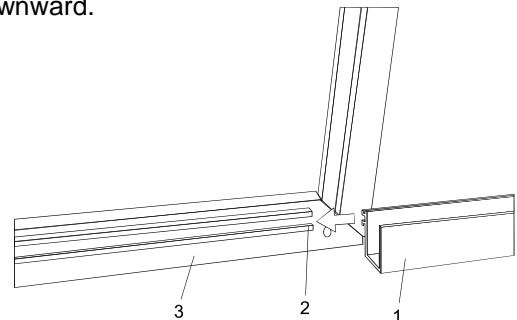

Fig. 4
- Slide the lower plastic door track (1) into slot (2) in the inside bottom section of door frame (3) (see Fig. 4).